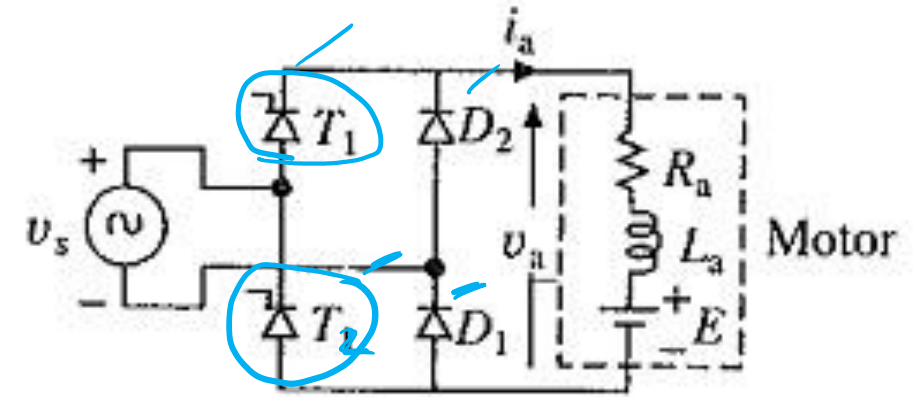

Fig. 1. Single phase half-controlled rectifier DC motor.
- In a normal two-quadrant operation of a motor one needs forward motoring (quadrant I) and forward braking (quadrant II) which cannot be provided by the drive of Fig. 1.
- Single Phase Half Controlled Rectifier Control is shown in Fig. 1.
- In a cycle of source voltage defined by Eq. (1), T_1 receives a gate pulse from α to π and T_2 from $(\pi + \alpha)$ to 2π .